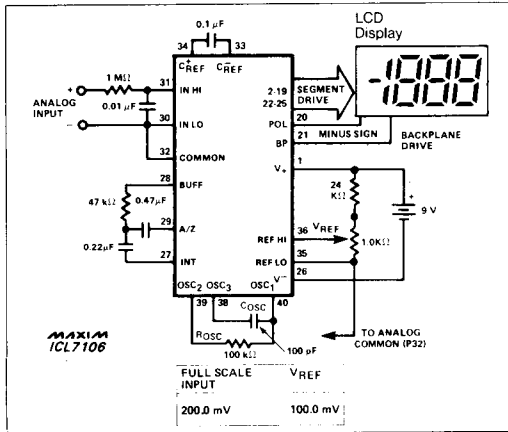
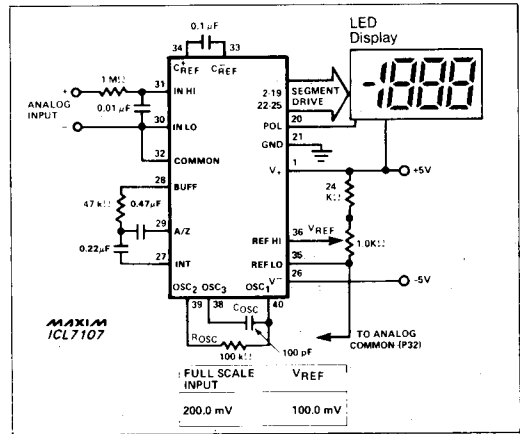

Figure 1. Maxim ICL7106 Typical Operating Circuit
Figure 2. Maxim ICL7107 Typical Operating Circuit
Note 3: Unless otherwise noted, specifications apply to both the 7106 and 7107 at T_A = 25°C, f_{CLOCK} = 48kHz. 7106 is tested in the circuit of Figure 1. 7107 is tested in the circuit of Figure 2.
($V^+ = 9V$; $T_A = 25^\circ C$; $f_{CLOCK} = 48kHz$; test circuit - Figure 1; unless noted)
- Note 6:** Test condition is V_{IN} applied between pin IH-HI and IN-LO through a 1M Ω series resistor as shown in Figures 1 and 2.
Note 10: 1M Ω resistor is removed in Figures 1 and 2.